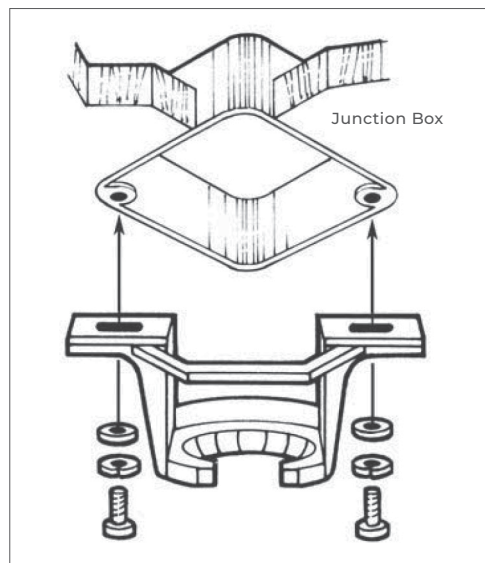

FIGURE 5
B) Attach the mounting bracket to the junction box using 2 screws and 2 washers provide (figure 5).